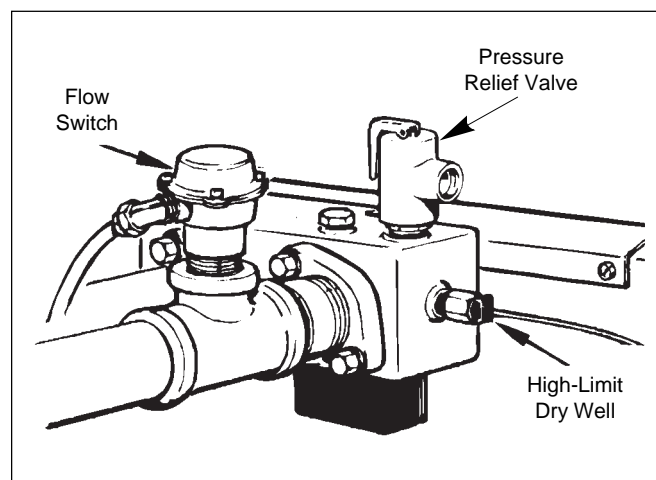

Figure 25. Pressure Relief Valve.
2. Make sure the pressure relief valve (see Figure 25) has its outlet piped to a drain or floor sink. Pay special attention to relief valve settings in installations where the boiler is located on the ground floor of a tall building, or where the operating temperature of the boiler is above 210°F (99°C). In both cases, the static pressure of the system is raised. This would bring raw water into the system. The factory will furnish a 75 psi (516.8 kPa) setting unless a special setting is ordered.